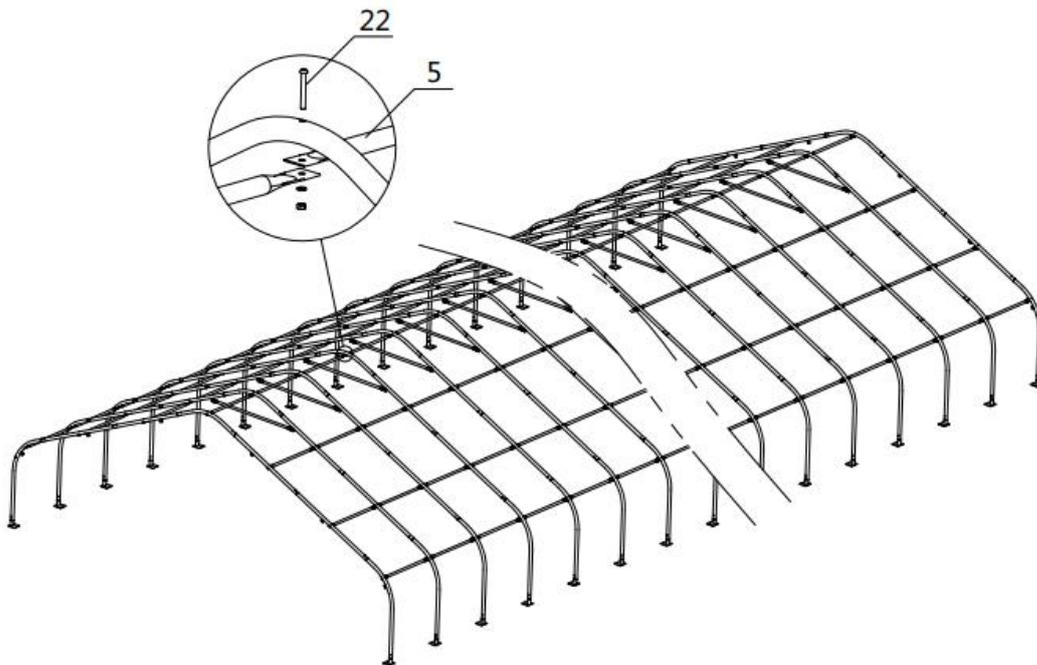

Figure 6
- Repeat above step to put up all other trusses (from 2th to 24th truss), and connect all purlins. Now the whole structure is completely up. (refer to figure 6)